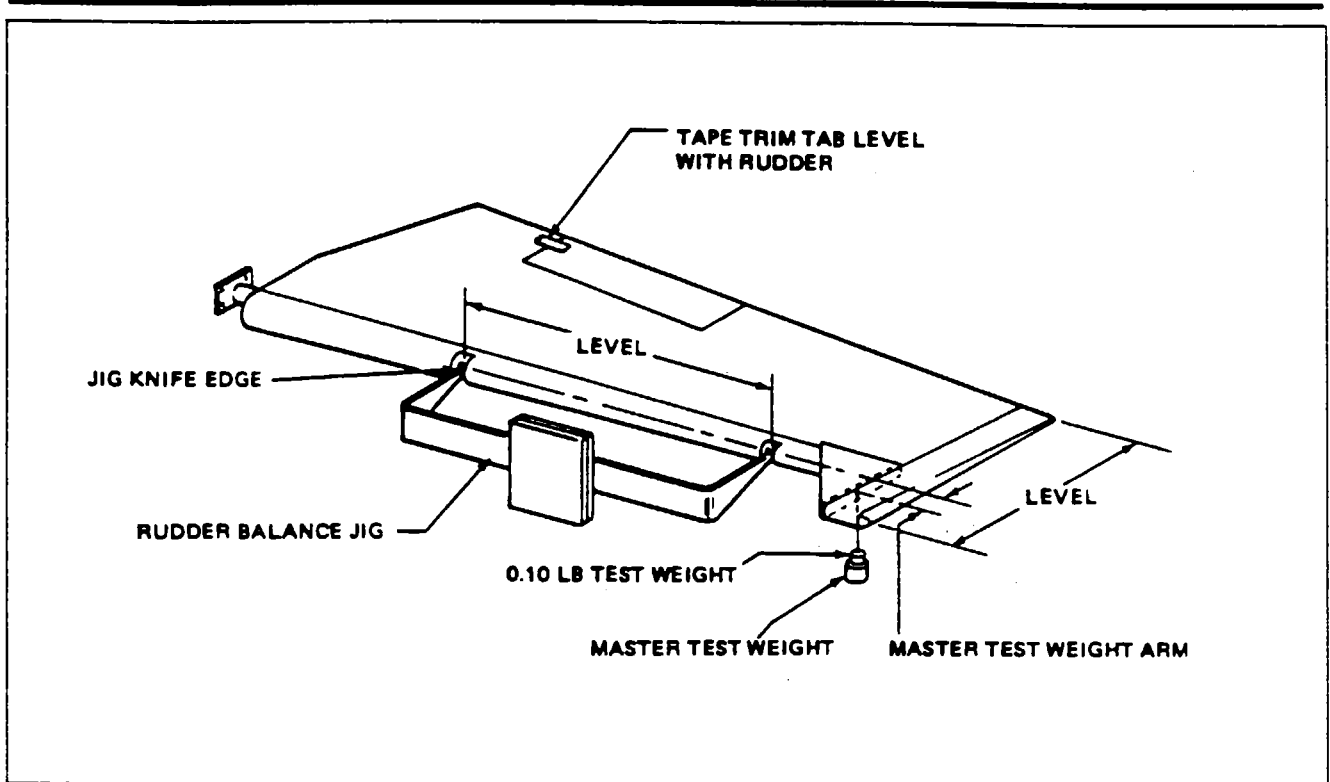

Figure 55-4. Rudder Balancing
RUDDER BALANCING PROCEDURE- (Refer to Figure 55-4.)
3. Fabricate a master test weight per specifications given in Chart 5502 and hang it in the existing tool hole in the rudder counterbalance channel, part number 40045. Ascertain that the tool hole is located to provide the proper master test weight arm as shown in Figure 55-4 and specified in Chart 5502.